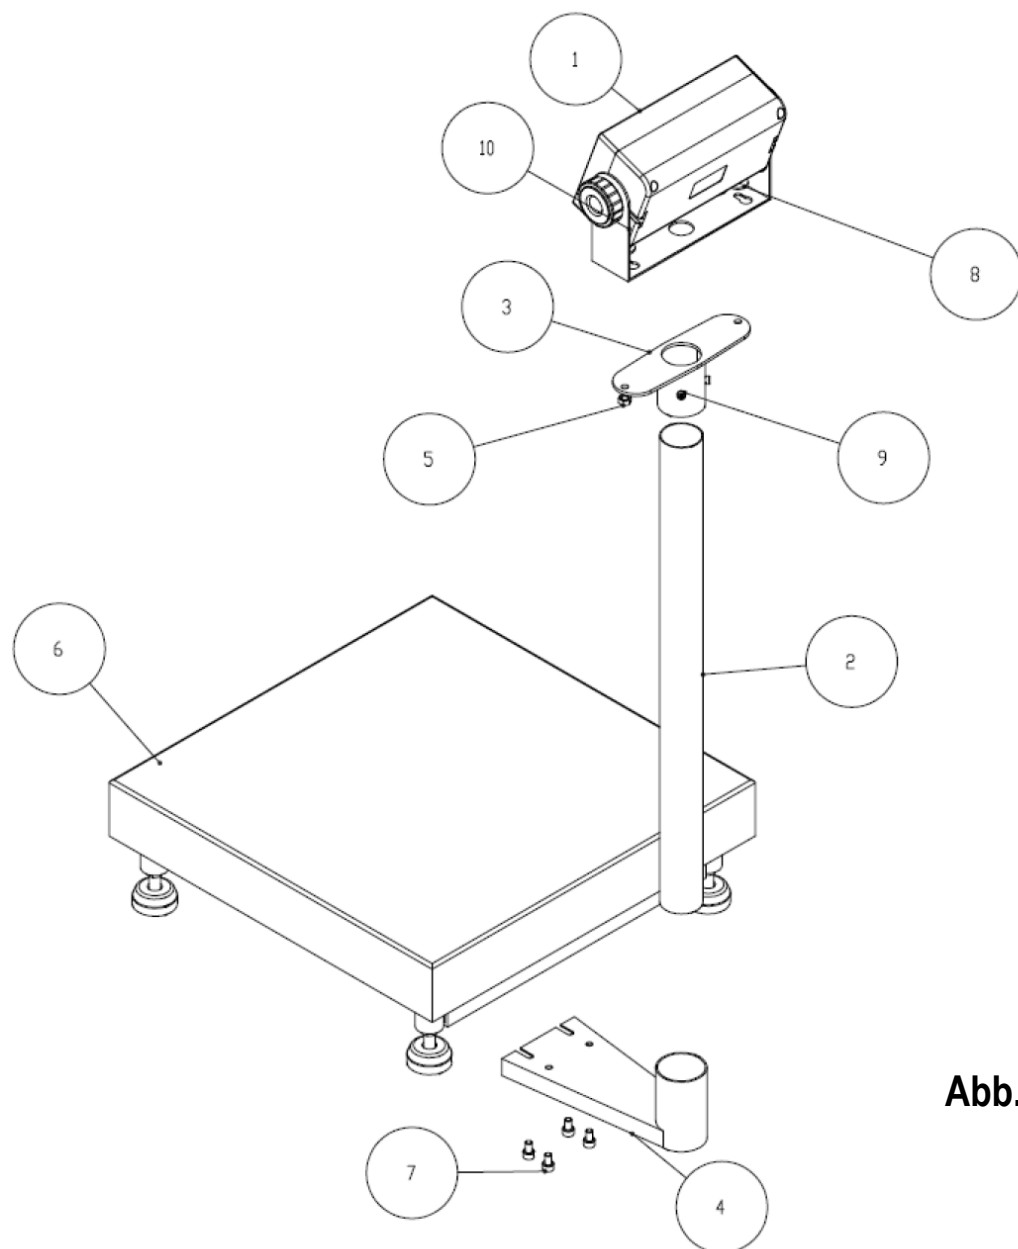

Abb.3
2.3 MONTAGE PB+PBCL...+PBCLST+DFWLI (WALL-E) (FIG.3)